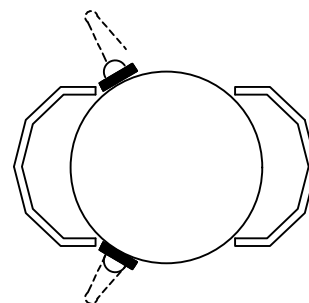

FIGURE 4
- (A) TEMPORARY POLE STEP LAG PLATES ARE TO BE INSTALLED WHEREVER DOUBLE STEEL TRUSSES ARE INSTALLED ON A POLE OR IF OTHER OBSTRUCTIONS SUCH AS RISERS, FENCING, ETC. WILL PREVENT SAFE CLIMBING ON POLES WITH SINGLE TRUSSES. IF POLE IS A CLASS THREE OR LARGER, INSTALL LAG PLATES ALTERNATIVELY AT 18 INCH INTERVALS ON SAME SIDE OF POLE (SEE PAGE 374.1, FIG. 2). IF POLE IS SMALLER THAN CLASS THREE, INSTALL LAG PLATES ALTERNATIVELY ON OPPOSITE SIDES OF POLE AT 18 INCH INTERVALS (SEE FIG. 4). INSTALL LOWEST LAG PLATE AT 18 INCHES ABOVE GROUND AND UPPER-MOST LAG PLATE NO GREATER THAN 18 INCHES BELOW THE TOP OF THE STEEL TRUSSES, INCLUDING THE PROTECTIVE COVER.